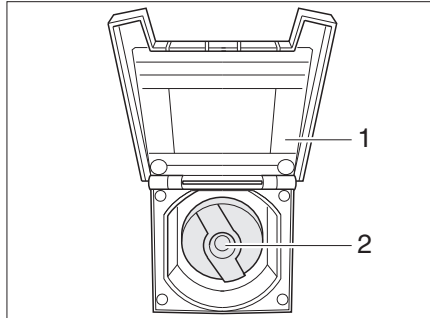

Fig. 334 Cap for the drinking water filler neck
- Open the cover flap (Fig. 334,1) of the drinking water filler neck. The cover is magnetically affixed to the outside wall of the vehicle.
- Insert key into locking cylinder (Fig. 334,2) and turn a quarter turn in an anti-clockwise direction.
- Open drinking water filler neck (Fig. 334).